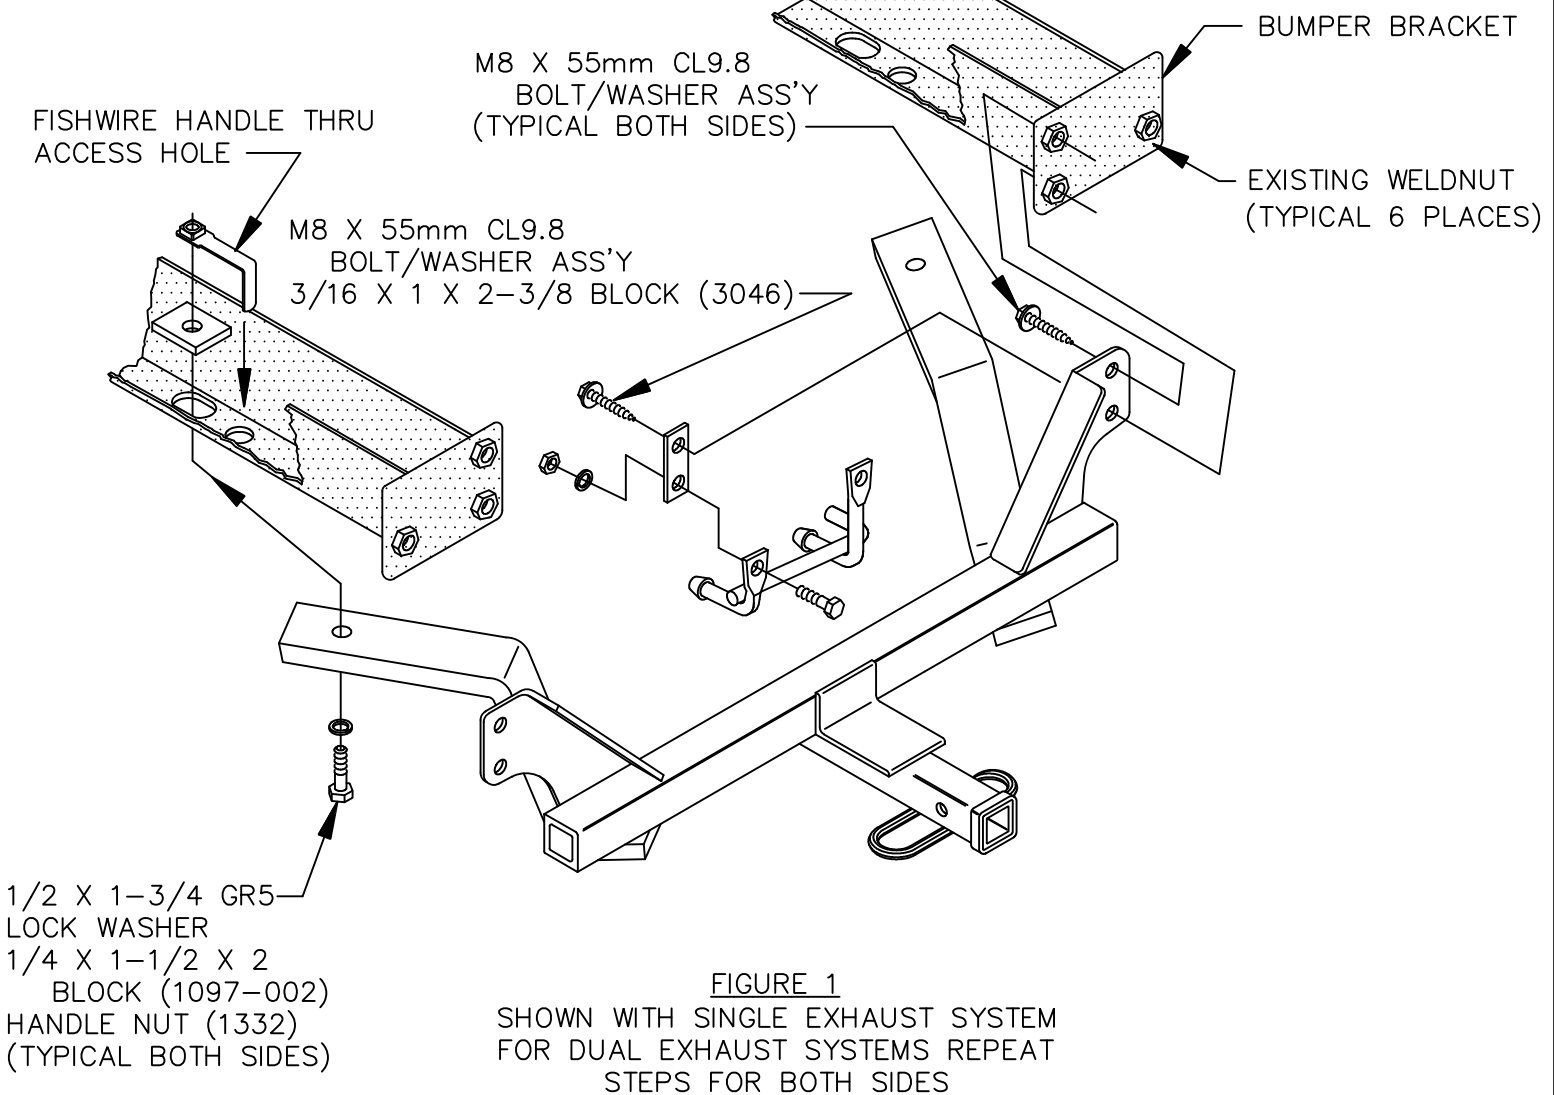

FIGURE 1
2. LOOSELY REINSTALL ONLY THE EXISTING M8 BOLT(S) THRU THE OUTBOARD WELDNUT(S).
4. FISHWIRE 1/2" HANDLE NUTS (1332) AND BLOCKS (1097-002) THRU LARGE SLOTS AS SHOWN FIGURE 1.
5. RAISE HITCH INTO POSITION AND LOOSELY INSTALL M8 FASTENERS PROVIDED, THRU BLOCKS (3046), HITCH, AND BUMPER BRACKET(S), INTO THE EXISTING WELDNUT, AS SHOWN IN FIGURE 1.
6. INSTALL 1/2" FASTENERS THRU THE HITCH AND FRAME RAILS INTO THE HANDLE NUTS, AS SHOWN FIGURE 1.
8. REINSTALL EXHAUST SYSTEM(S) TO HANGER BRACKETS.
9. INSTALL EXHAUST HANGER FASTENERS AS SHOWN IN FIGURES 1 & 2.